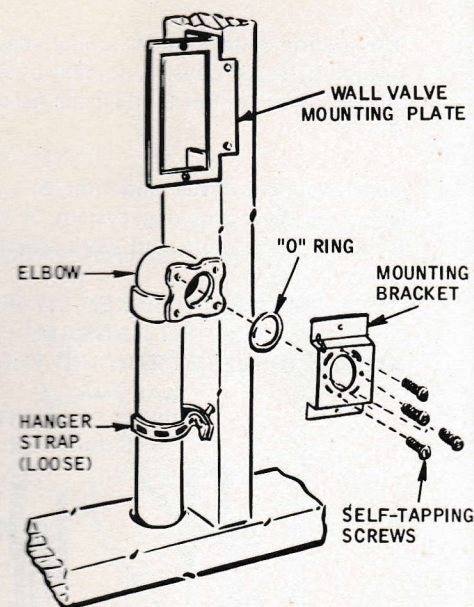

FIGURE 11 – SECURING TUBING AND MOUNTING BRACKET.
5. Assemble "O" ring and mounting bracket to elbow, using the four screws through the slotted holes in bracket. Make sure "O" ring is properly seated before adjusting for alignment with stud. Tighten screws completely. Use perforated strapping, hangers or clamps to firmly support the tubing (Figure 11).